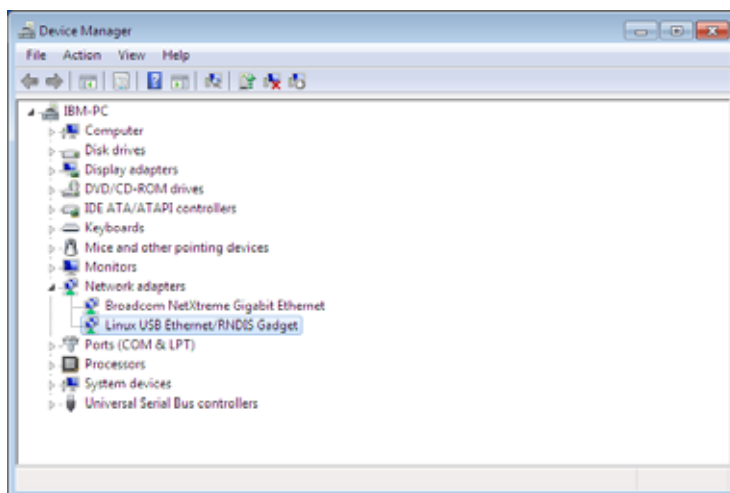

Figure 11. Device Manager Window – Verify Device Installation
- c. Verify that **Linux USB Ethernet/RNDIS Gadget** is listed under Network adapters (see Figure 11).